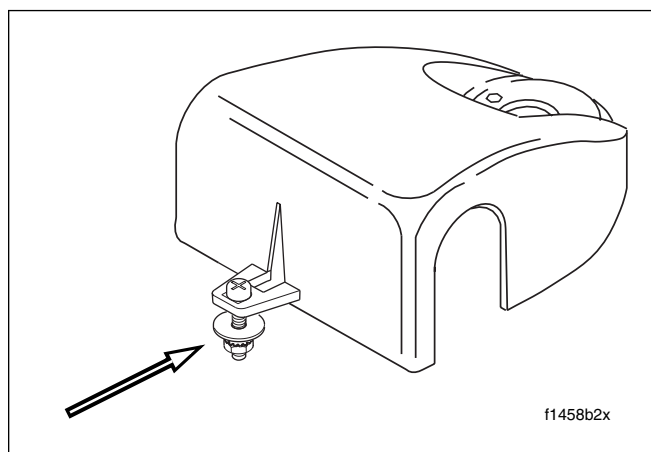

Figure 2-185. Handlebar Clamp Shroud and Screw Assembly
- Raise the handlebar clamp shroud, and after separating the halves of the headlamp nacelle slightly, slide the shroud forward running the shaft of the Phillips screw down the gap. See Figure 2-185.
- If disassembled, install Phillips screw, flat washer and Keps nut on the handlebar clamp shroud as shown in Figure 2-185.